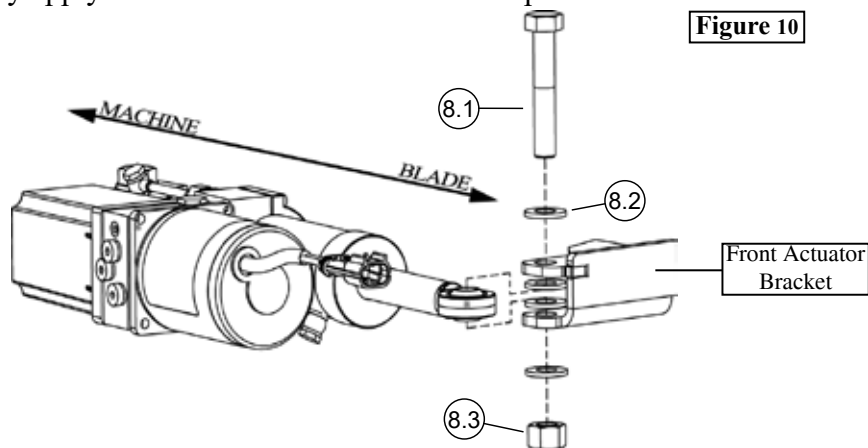

Figure 10
2. Repeat previous step for mounting the front half of the actuator, as shown in Figure 10. It is most important that you use the washers to make sure that the actuator is parallel to the cradle swivel point, as shown in Figure 11. Both front, and rear bolts should not be tight, thread the nut on until Nylock is engaged.